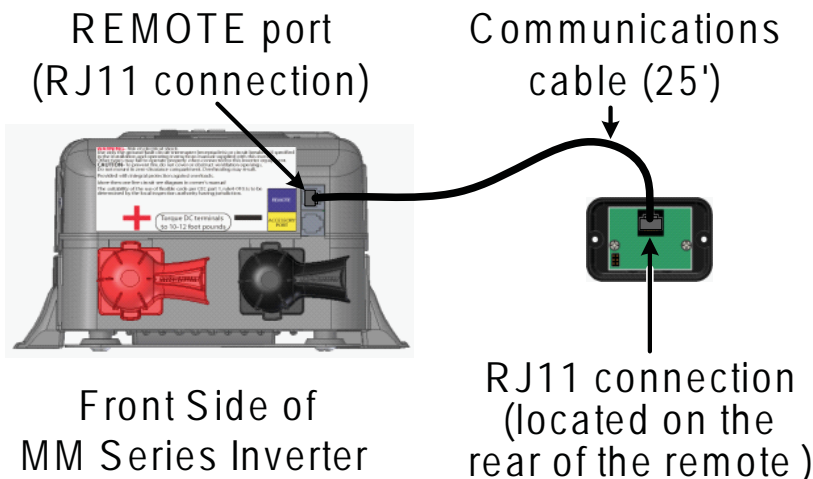

Figure 2, Communications Cable Connections
1. Cut an opening in a wall – see Figure 2 to determine the correct opening dimensions. DO NOT cut the opening too big to ensure there are no openings around the display, and that there is enough material for the screws to secure the display. Remove any wall insulation (if applicable) that may contact the back of the remote.
3. Connect the communications cable to the RJ11 jack at the rear of the remote control (see Figure 2).